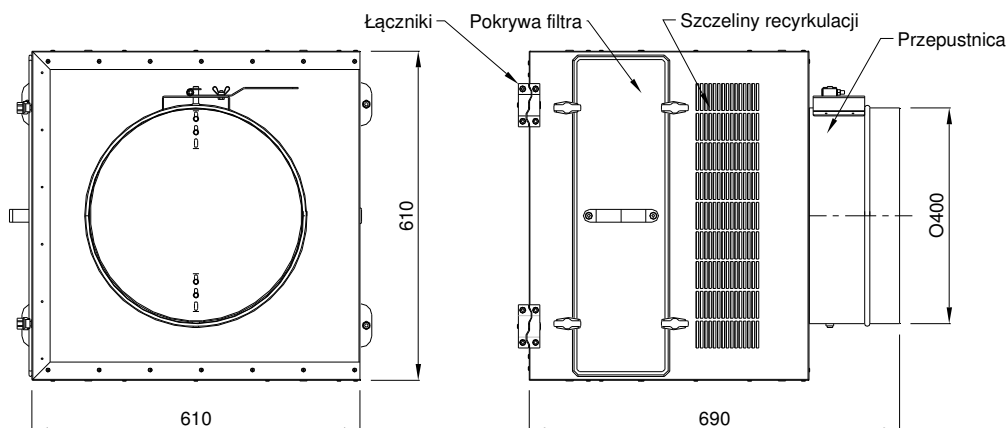

Fig. No 11 Mixing and filtration box
- attach the mixing box using slings, steel (according to fig. No. 11)